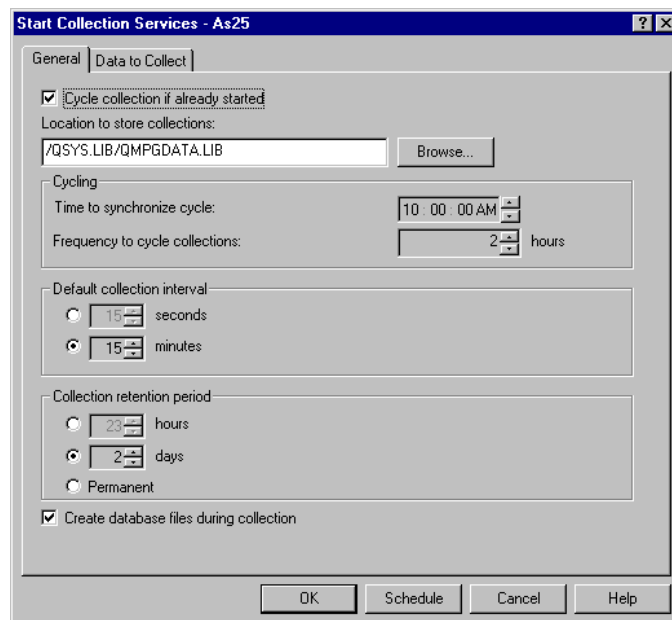

Figure 108. Start Collection Services window: General page
5. Right-click **Collection Services**, and select **Start Collecting** to open the Start Collection Services window. The General page is displayed as shown in Figure 108.
4. Select **Start Collecting** to open the Start Collection Services window. The General page is displayed as shown in Figure 108 on page 130.